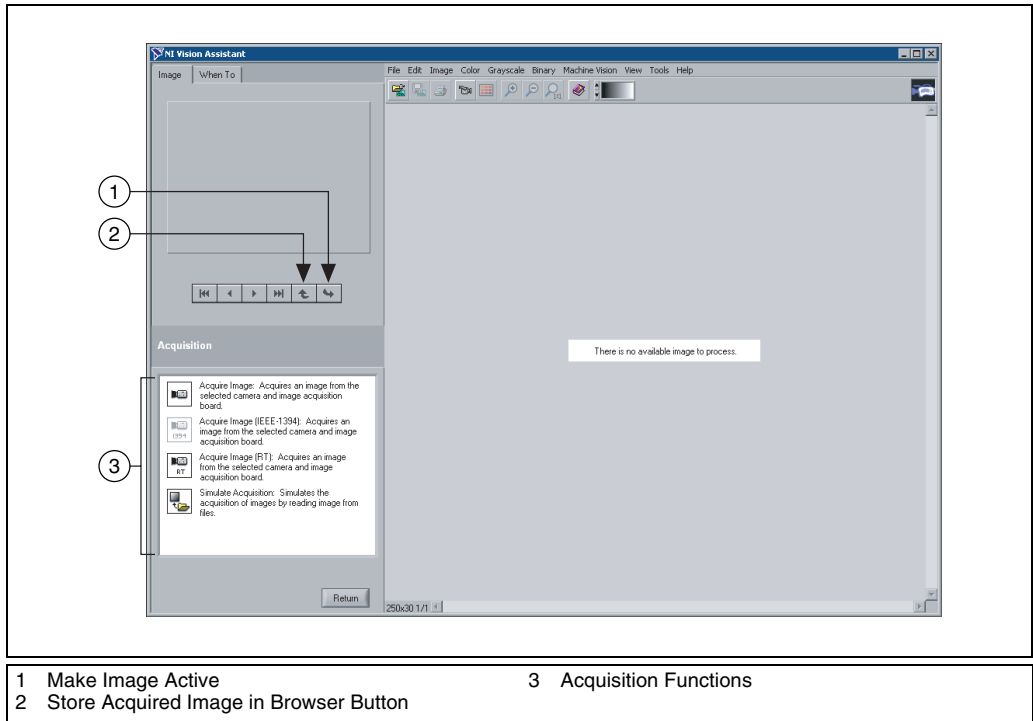

Figure 2-5. Acquiring Images in Vision Assistant
1. Click **Start»Programs»National Instruments Vision Assistant 7.1**. Click **Acquire Image** in the Welcome screen to view the Acquisition functions, as shown in Figure 2-5.
If you already have Vision Assistant running, click the **Acquire Image** button in the toolbar. Vision Assistant displays the Acquisition functions, as shown in Figure 2-5.